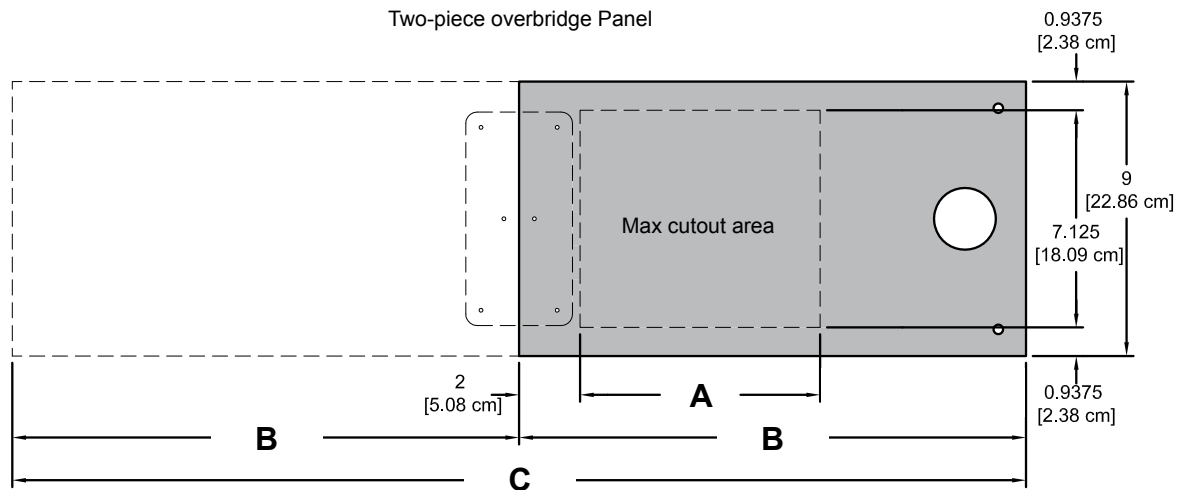

Figure 2.1
1. Before you begin, refer to the panel dimensions in **Figure 2.1** and the chart below for maximum recommended cutout sizes.